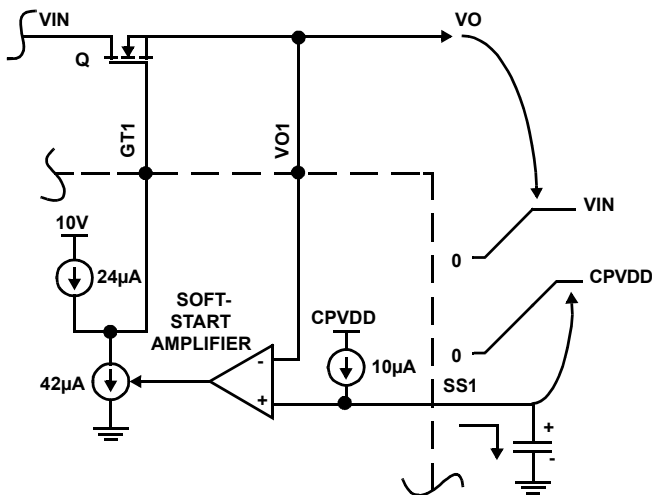

FIGURE 15. SOFT-START OPERATION
The output voltages are monitored through the Vo pins and slew up at a rate determined by the capacitors on the Soft-start (SS) pin, as illustrated in Figure 15. 24µA of gate charge current is available. The soft-start amplifier controls the output voltage by robbing some of the gate charge current thus slowing down the MOSFET enhancement. When the load voltage reaches its set level, as sensed by its respective UV pin through an external resistor divider, the Power Good ( $\overline{PG}$ ) output goes active.
$I_{INRUSH}$  is the sum of the DC steady-state load current and the load capacitance charging current. If the DC steady-state load remains disabled until after the soft-start period expires (PGX could be used as a load enable signal, for example), then only the capacitor charging current should be used as  $I_{INRUSH}$ . The  $C_{SS}$  value should always be more than (1/2.4) of that of  $C_{ISS}$  of the MOSFET to ensure proper soft-start operation. This is because the  $C_{ISS}$  is charged from  $24\mu\text{A}$  current source, whereas the  $C_{SS}$  gets charged from a  $10\mu\text{A}$  current source (Figure 15). In order to make sure both  $V_{SS}$  and  $V_O$  track during the soft-start, this condition is necessary.